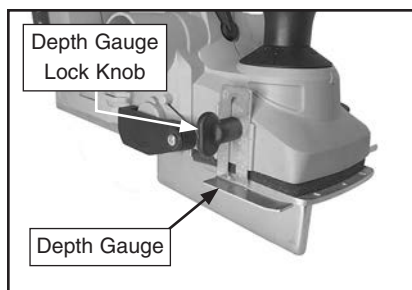

Figure 15. Depth gauge installed.
3. Install depth gauge with depth gauge lock knob (see **Figure 15**).